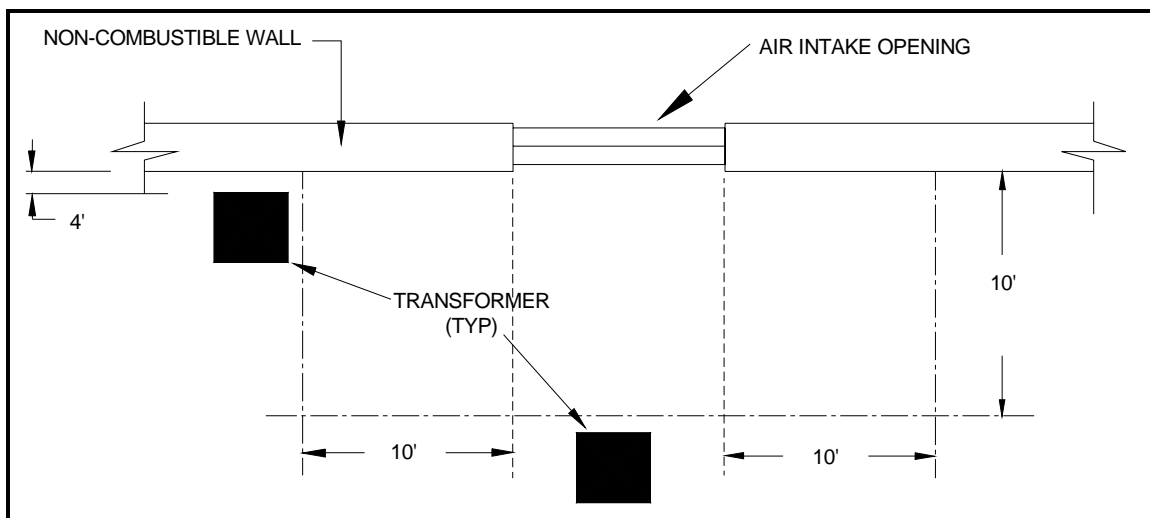

Figure 3 – Clearance From Air Intake (Non-Combustible Wall)
- 2.2 Padmounted type transformers shall not be located within a zone extending ten feet outward and 10 feet to either side of an air intake opening. If the air intake opening is above the transformer, there must be a twenty-five foot vertical distance from the opening to the transformer. (See Figure 3)